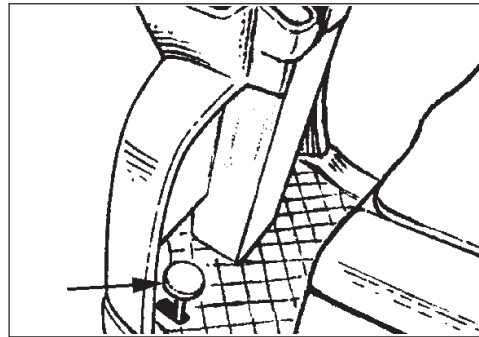

Figure 36
5. Release the parking brake (see figure 36)